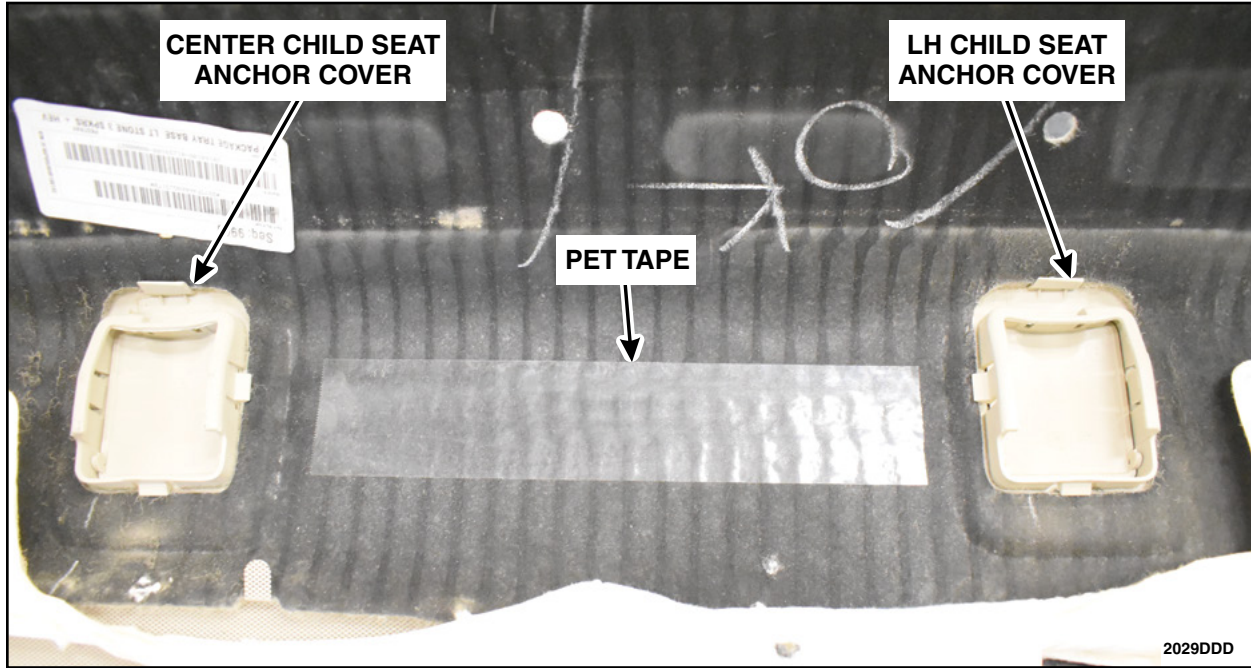

FIGURE 9
10. Remove the adhesive backing on the PET tape strip and apply tape between the center and left hand child seat anchor covers. See Figure 9.